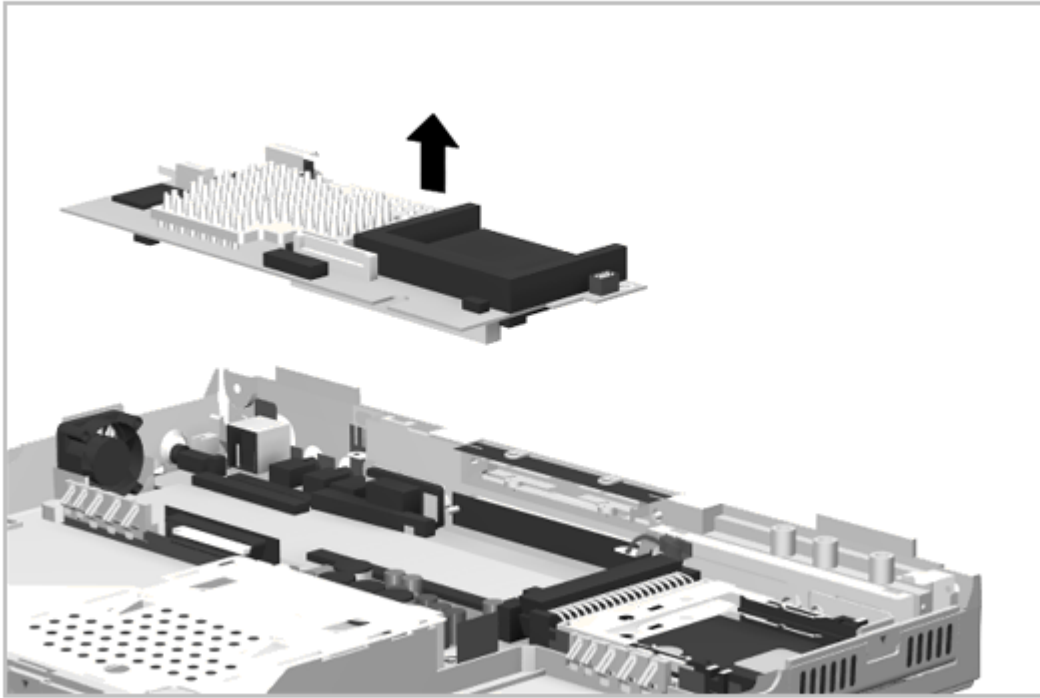

Figure 5-51. Removing the Processor Board
10. Remove the processor board as shown in Figure 5-51.